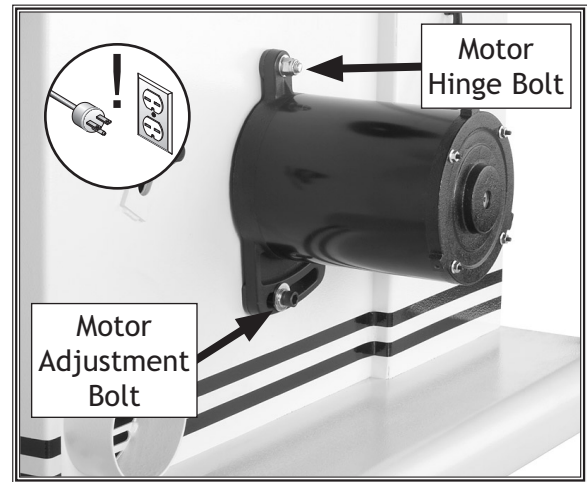

Figure 51. Motor mount bolts.
2. Loosen the motor mount bolts shown in **Figure 51**.